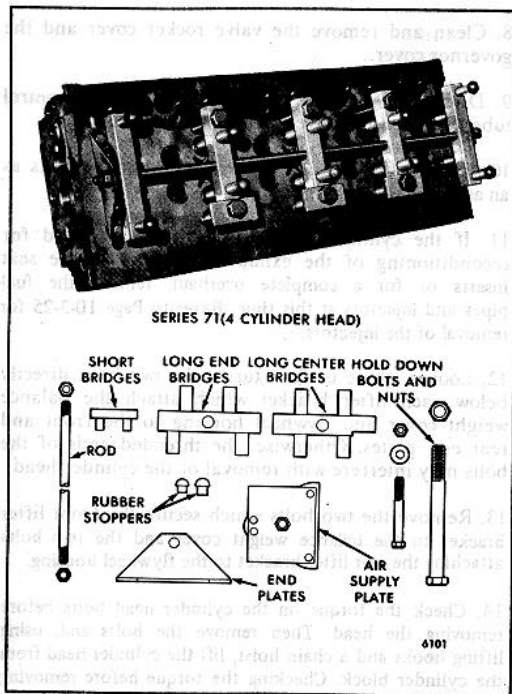

Fig. 7. Cylinder Head Prepared for Pressure Test using Tool J 28454
- a. To seal off the water holes in the cylinder head, assemble tool set J 28454 as follows (Fig. 7):